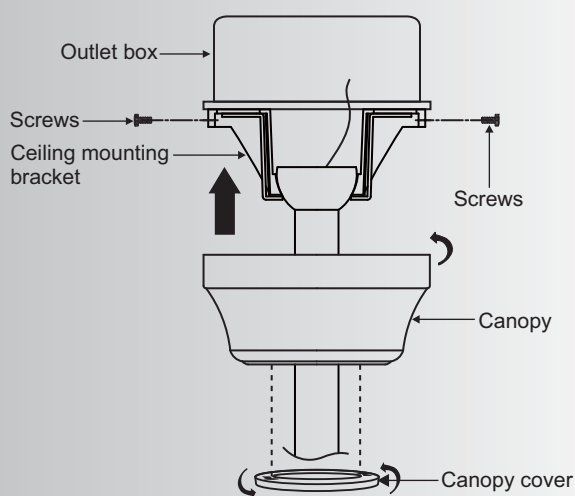

Fig. 13
Step 2. Slide the canopy up to ceiling and attach the canopy to the ceiling mounting bracket using 4 screws at the top edge of the mounting bracket. Insert each screw through the canopy mounting hole and into the mounting bracket. Slide the canopy cover up to the canopy and rotate clockwise until tight. Tighten all screws securely. (Fig. 13)